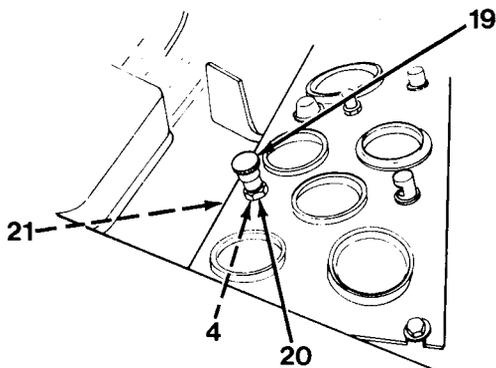

Figure 7-4
10. Remove knob (19), lock nut (20), nut (21) and cable (4, Figure 7-4).
1. Install cable (4, Figure 7-4) by positioning through opening on back wall of operator's compartment and through opening on instrument panel
2. Install nut (21), lock nut (20) and knob (19) to cable (4).